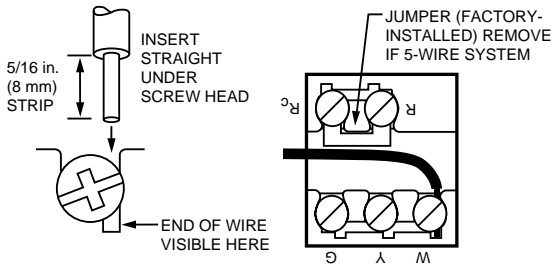

Fig. 3. Proper wiring technique.
1. Connect the system wires to the thermostat. See Fig. 3. A letter code is located near each terminal for identification.